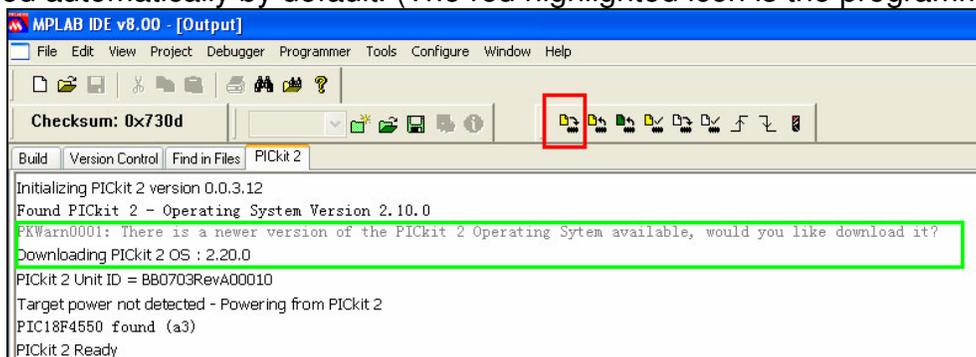

Figure 14 PICkit 2 is connected and ready
6. PICkit 2 will initialize and a message “PICkit 2 Ready” will show up, as shown in figure 14. Note: the message in the green frame may not display, it depends if there is a newer version of PICkit 2 operating system or not. Whenever there is a newer version available, it will be downloaded automatically by default. (The red highlighted icon is the programming icon.)